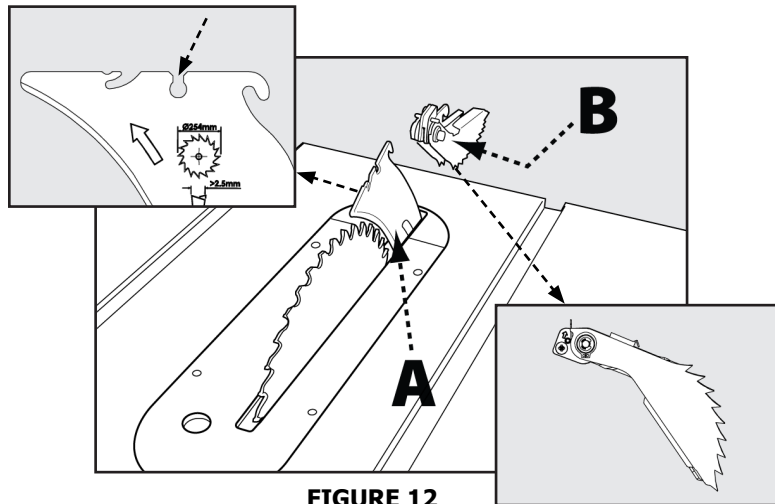

FIGURE 12
1. Refer to Figure 12 and locate the anti-kickback pawls mounting slot (A) in the middle of the top edge of the riving knife.
2. Slide slot in the middle of the anti-kickback pawls assembly along the top of the riving knife until the stem (B) locates the center slot on the riving knife.
3. Depress the stem on the anti-kickback pawls assembly (B) to allow the assembly to drop into the slot. Push down on the anti-kickback pawls assembly until it snaps into place and locks. Release stem. **NOTE: Pull up on the anti-kickback pawls to make sure it is locked in place.**